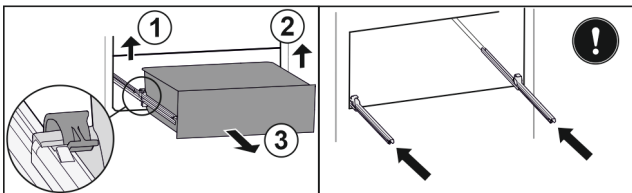

Fig. 167
- ▶ Lift left clamp and simultaneously pull drawer forwards on the left. Fig. 167 (1)
- ▶ Lift right clamp and simultaneously pull drawer forwards on the right. Fig. 167 (2)
- ▶ Remove drawer to the front. Fig. 167 (3)